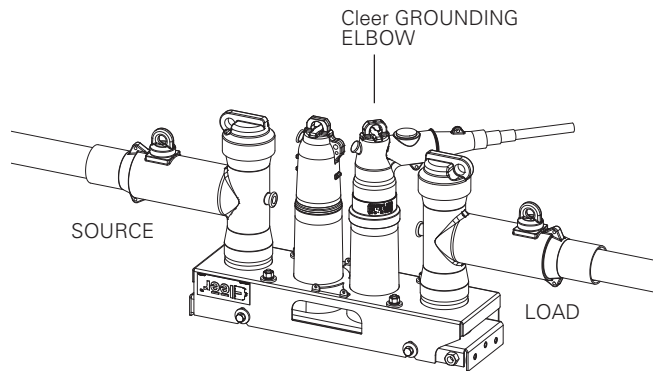

Figure 11. Install Cleer grounding elbow
- If circuit is de-energized, install Cleer 600 A, 15/25/35 kV grounding elbow cable to system ground. Install grounding elbow on load-side 600 A loadbreak interface. See **Figure 11**.